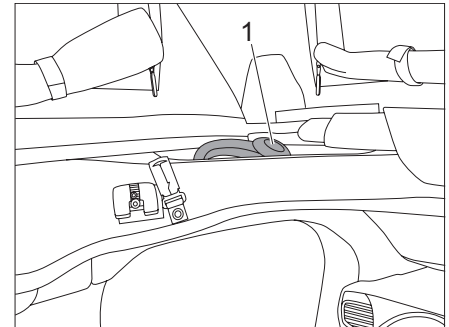

Fig. 40 Stowing the gooseneck lamp (special equipment)
- ▶ Bend the gooseneck lamp (special equipment) (Fig. 40,1) so that it fits into the recess above the driver's seat. The gooseneck lamp must not protrude over the recess or lie on the GRP surface.